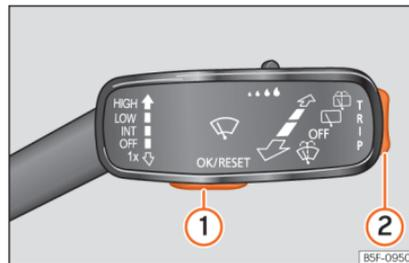

Fig.77 Wiper lever: control keys.
As long as a priority 1 »» page 74 warning is active, it will not be possible to access any menu. Some warnings can be confirmed and hidden with the button »» Fig. 77 ①.